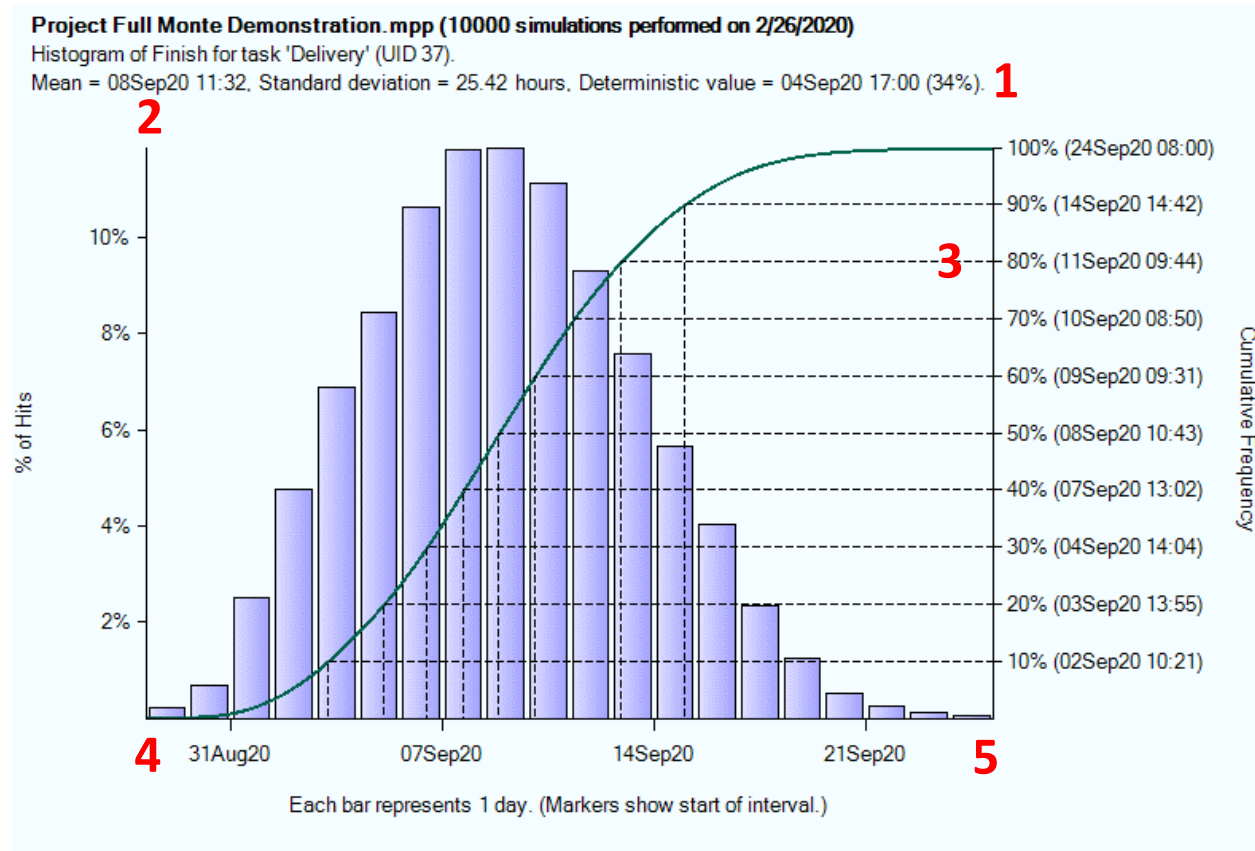
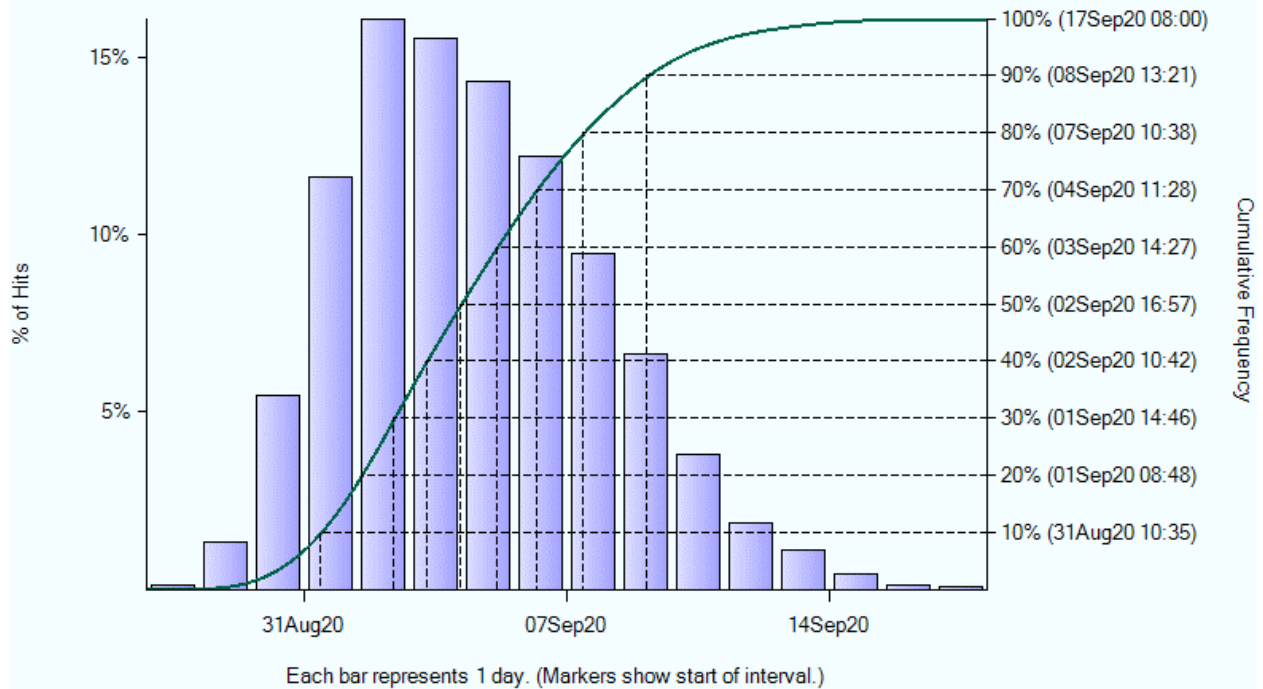

Figure 1
Figure 5
The example in Figure 1 provides several important pieces of information. We can see that:
The SRA will simulate the execution of the project thousands of times, taking uncertainty into account, and will calculate a range of completion dates (the histogram in Figure 1). Using the cumulative S-Curve overlaid on the Histogram, we can see the finish dates at various degrees of probability. In Figure 1 we can see that 80% of the simulations finished on or before 11Sep20 and 90% of the simulations finished on or before 14Sep20 etc.
After the analysis is complete, we can review the histogram for the Delivery milestone as shown in Figure 1.
*best/worst case dates **always** come from the histogram for the sensitivity target (Delivery – see figure 1).*
The Sensitivity Index ranks the tasks in order of their impact on the outcome and clearly shows that HW Task 1 and 4 are having the greatest effect. The split between green and red areas in the time scaled bar chart shows the potential impact versus the mean finish for the outcome (8Sep20 from the Histogram in Figure 1). This highlights that, during the simulations, when tasks HW Task 1 and 4 finished closer to their Optimistic (best case) duration estimate then the finish date for Delivery tended to be earlier than its expected mean. Conversely, if the tasks finished closer to their Pessimistic (worst case) duration estimate then the finish for Delivery tended to be later than the mean.
For this example, we will reduce the durations of HW Tasks 1 and 4 by two days each. After repeating the schedule risk analysis with the revised data, the Delivery histogram is now shown in Figure 5.
One interesting development is that ‘Brochure Development’ and ‘Brochure Printing’ now have a Percent Critical of 16%. Clearly, we don’t want project delivery delayed by a brochure so that needs to be investigated. Brochure development has a Start No Earlier than constraint that prevents it from moving earlier. This is the reason the histogram in Figure 5 is less symmetrical compared to Figure 1.